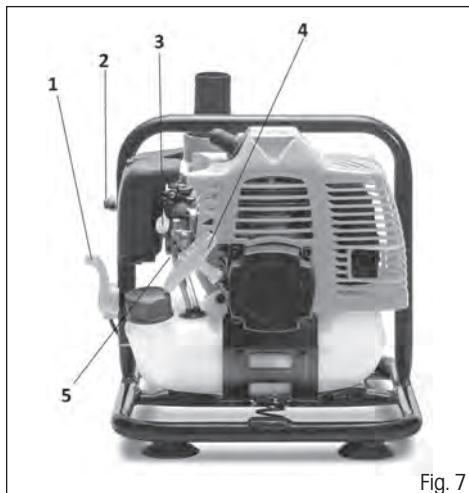

Fig. 7
1. Set the throttle trigger (fig.7, point 1) approximately to halfway of its path.
2. Repeatedly push down the fuel primer bulb (3 to 5 presses), until the fuel gets to the carburettor. (Fig. 7, point 5)
3. Move the choke lever upwards to the "OFF" position (=air supply turned off, i.e. choke turned on). (Fig. 7, point 3)
4. Hold the pump on the ground with your left hand and pull the starting cord with your right hand (fig.7, point 4), until the engine is given a spin (attempting to start up).
- ☼ To control the engine speed along with the pump output, operate the throttle trigger (fig.7, point 1).
- ☼ To stop the engine, press the STOP button (fig.7, point 2).